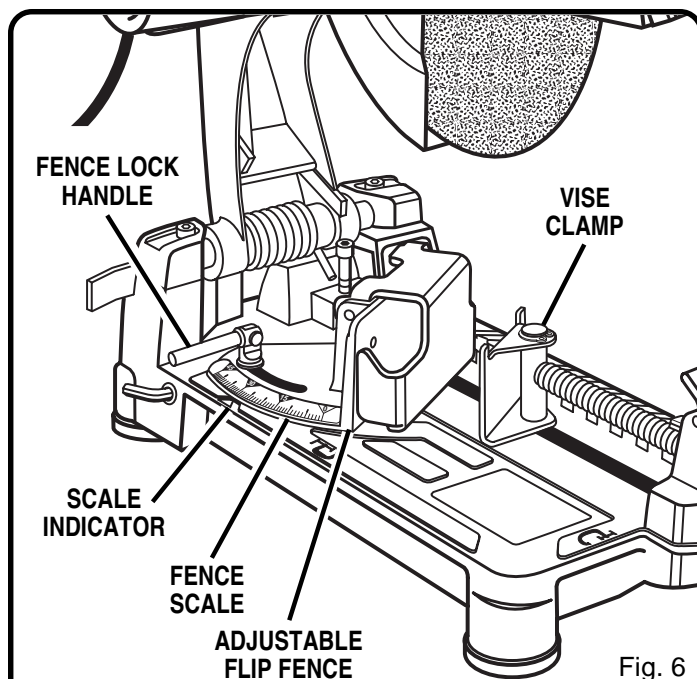

Fig. 6
See Figure 6.
- Using the fence lock handle, securely tighten the fence in place at desired angle. See Figure 6.